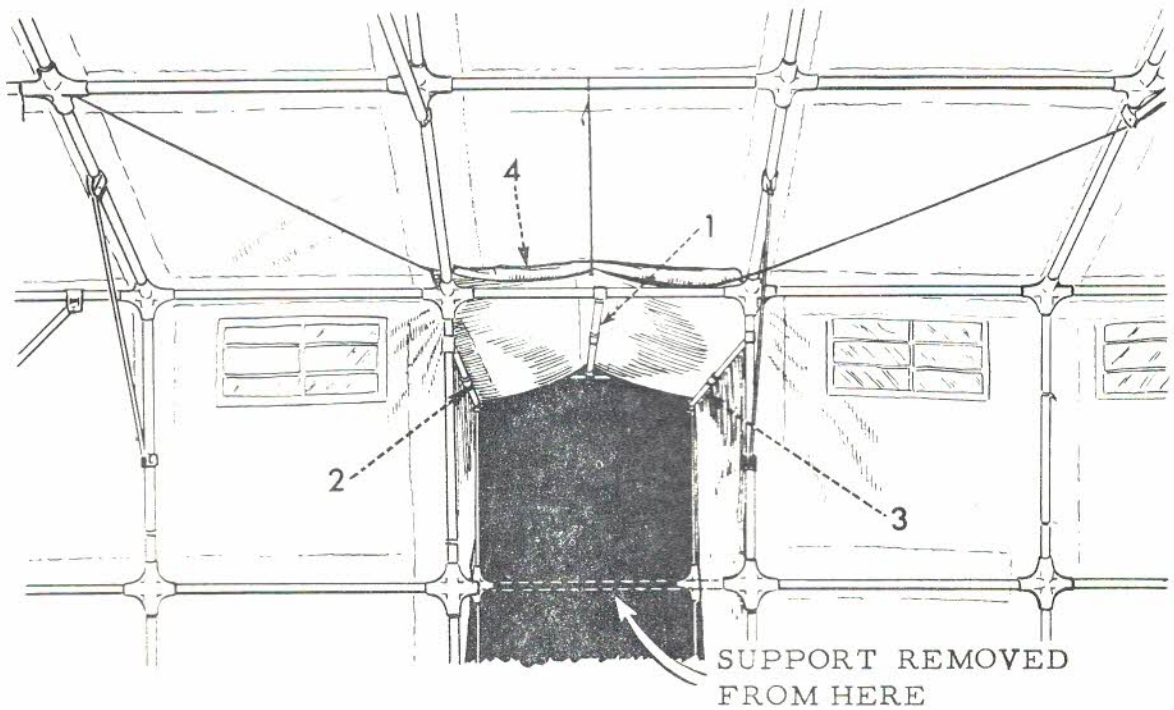

FIG 33 - LOCATION OF BRACES AND ROOF TIES
(See Note, para 66, Fig 33)
16. Remove the obstructing supports from the GP tents (see Fig 33).
2. Roll up the unwanted cover of the GP tent extension section, and tuck it under the cover of the interconnecting tent (see Arrow 4 Fig 33).
3. Attach the three roof ties of the interconnecting tent cover to the members of the GP tents (see Fig 33).